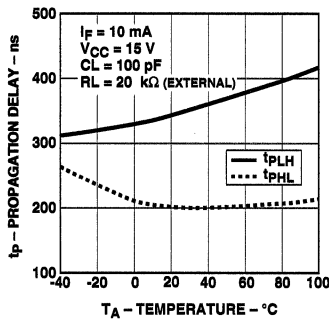

Figure 12. Propagation Delay with External 20 kΩ RL vs. Temperature.
- Due to tolerance of the internal resistor, and since propagation delay is dependent on the load resistor value, performance can be improved by using an external $20 \text{ k}\Omega$ 1% load resistor. For more information on how propagation delay varies with load resistance, see Figure 12.